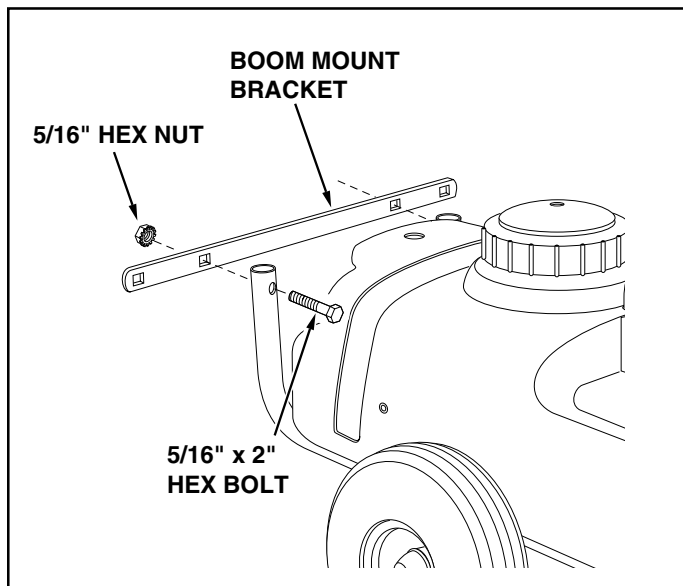

FIGURE 5
9. Assemble the boom mount bracket to the rear of the hitch tubes using two 5/16" x 2" hex bolts and 5/16" hex nuts. See figure 5.